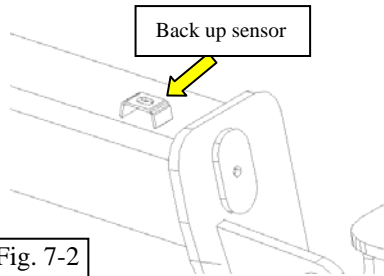

Fig. 7-2
- (c) If vehicle had back up sensor option re-attach clip to provided location on hitch (Fig 7-2)